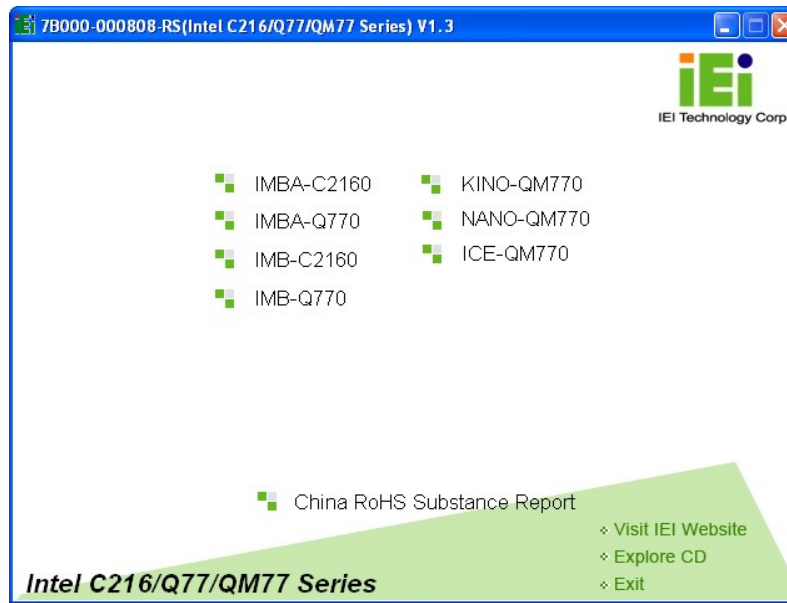

Figure 6-1: Start Up Screen
Step 2: The driver main menu appears (**Figure 6-1**).